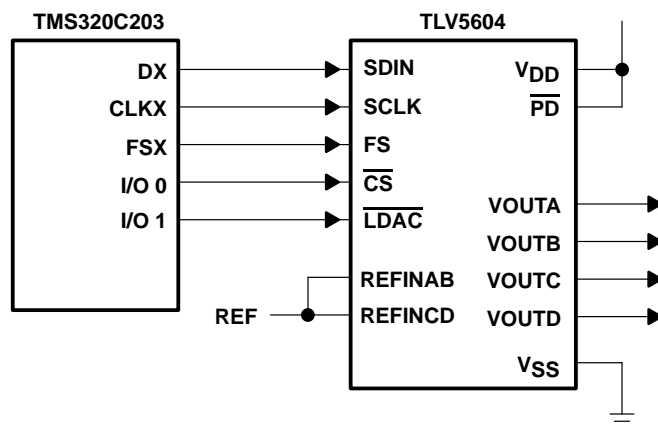

Figure 17. TLV5604 Interfaced with TMS320C203
Figure 17 shows an example of how to connect the TLV5604 to a TMS320C203 DSP. The serial port is configured in burst mode, with FSX generated by the TMS320C203 to provide the Frame Sync (FS) input to the TLV5604. Data is transmitted on the DX line, with the serial clock input on the CLKX line. The general-purpose input/output port bits IO0 and IO1 are used to generate the Chip Select ( $\overline{\text{CS}}$ ) and DAC Latch Update ( $\overline{\text{LDAC}}$ ) inputs to the TLV5604. The active low Power Down ( $\overline{\text{PD}}$ ) is pulled high all the time to ensure the DACs are enabled.